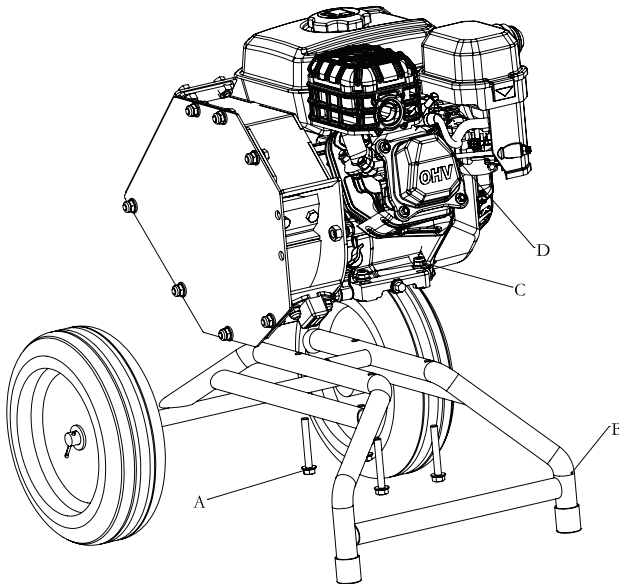

Figure 2
2. Mounting engine (See Figure 2)
- a. Using four M80*60 bolt (A) and four nuts (C) to affix engine support (B) to engine (D).